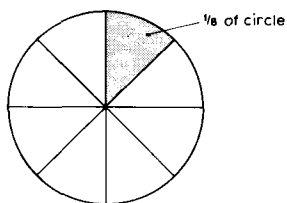

Fig. 1.1
**Vulgar fractions.** The circle in Fig. 1.1 is divided into a number of equal parts, in this case eight. Each part is called one-eighth of the circle and is written as  $\frac{1}{8}$ . The number 8 below the line shows how many equal parts there are and it is called the *denominator*. The number above the line shows how many parts are taken and it is called the *numerator*. If seven of the eight parts are taken then we have  $\frac{7}{8}$  of the circle.